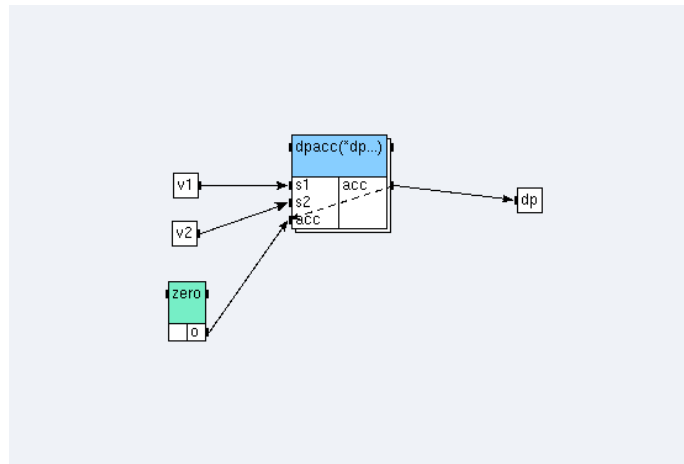

Figure 4.7: Algorithm of the function `dp`
- create dependences to obtain an algorithm (cf. figure 4.7). To build the dependence between the output port `acc` of `dpacc` and its input port `acc`, choose **Iterate** on the dialog window (it is the connection between two successive calls of the function).